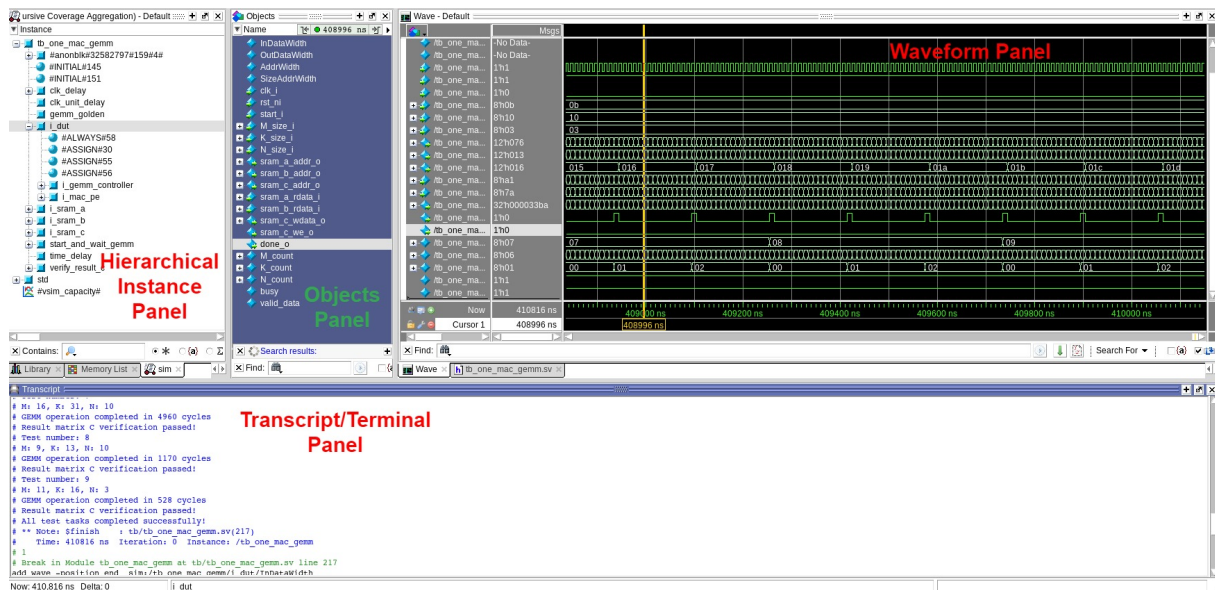

Figure 2: Default Questasim panels
- Sometimes the waveforms don't appear by default; however, the default view shows three main panels as shown in Fig. 2.